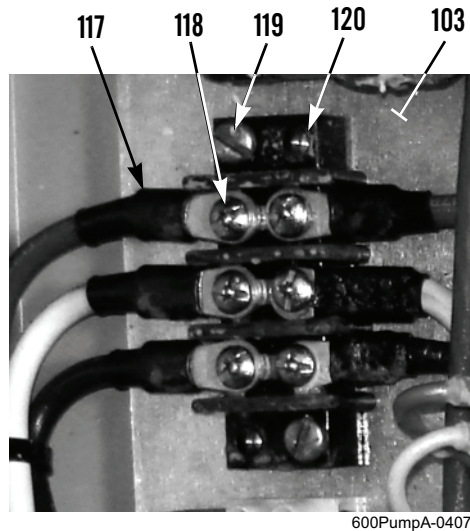

Figure 32. Three-Gang Terminal Block.
1. Remove six screws (Figure 32, Item 118) and wires (Figure 32, Item 117) from three-gang terminal block (Figure 32, Item 120).
2. Remove two screws (Figure 32, Item 119) and three-gang terminal block (Figure 32, Item 120) from inside circuit board panel (Figure 32, Item 103).
1. Install three-gang terminal block (Figure 32, Item 120) on inside circuit board panel (Figure 32, Item 103) with two screws (Figure 32, Item 119).
2. Install six wires (Figure 32, Item 117) and screws (Figure 32, Item 118) on three-gang terminal block (Figure 32, Item 120).